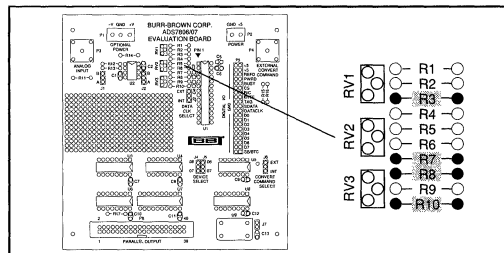

FIGURE 8. Factory Setting for Step 3.
- B) To adjust offset, install the proper potentiometer and resistors, ground the input, then adjust the pot accordingly (see Table II and Figure 8).
- C) To adjust gain, install the proper potentiometer and resistors, then adjust the pot accordingly. Do this for +FS and -FS (see Table II and Figure 8).